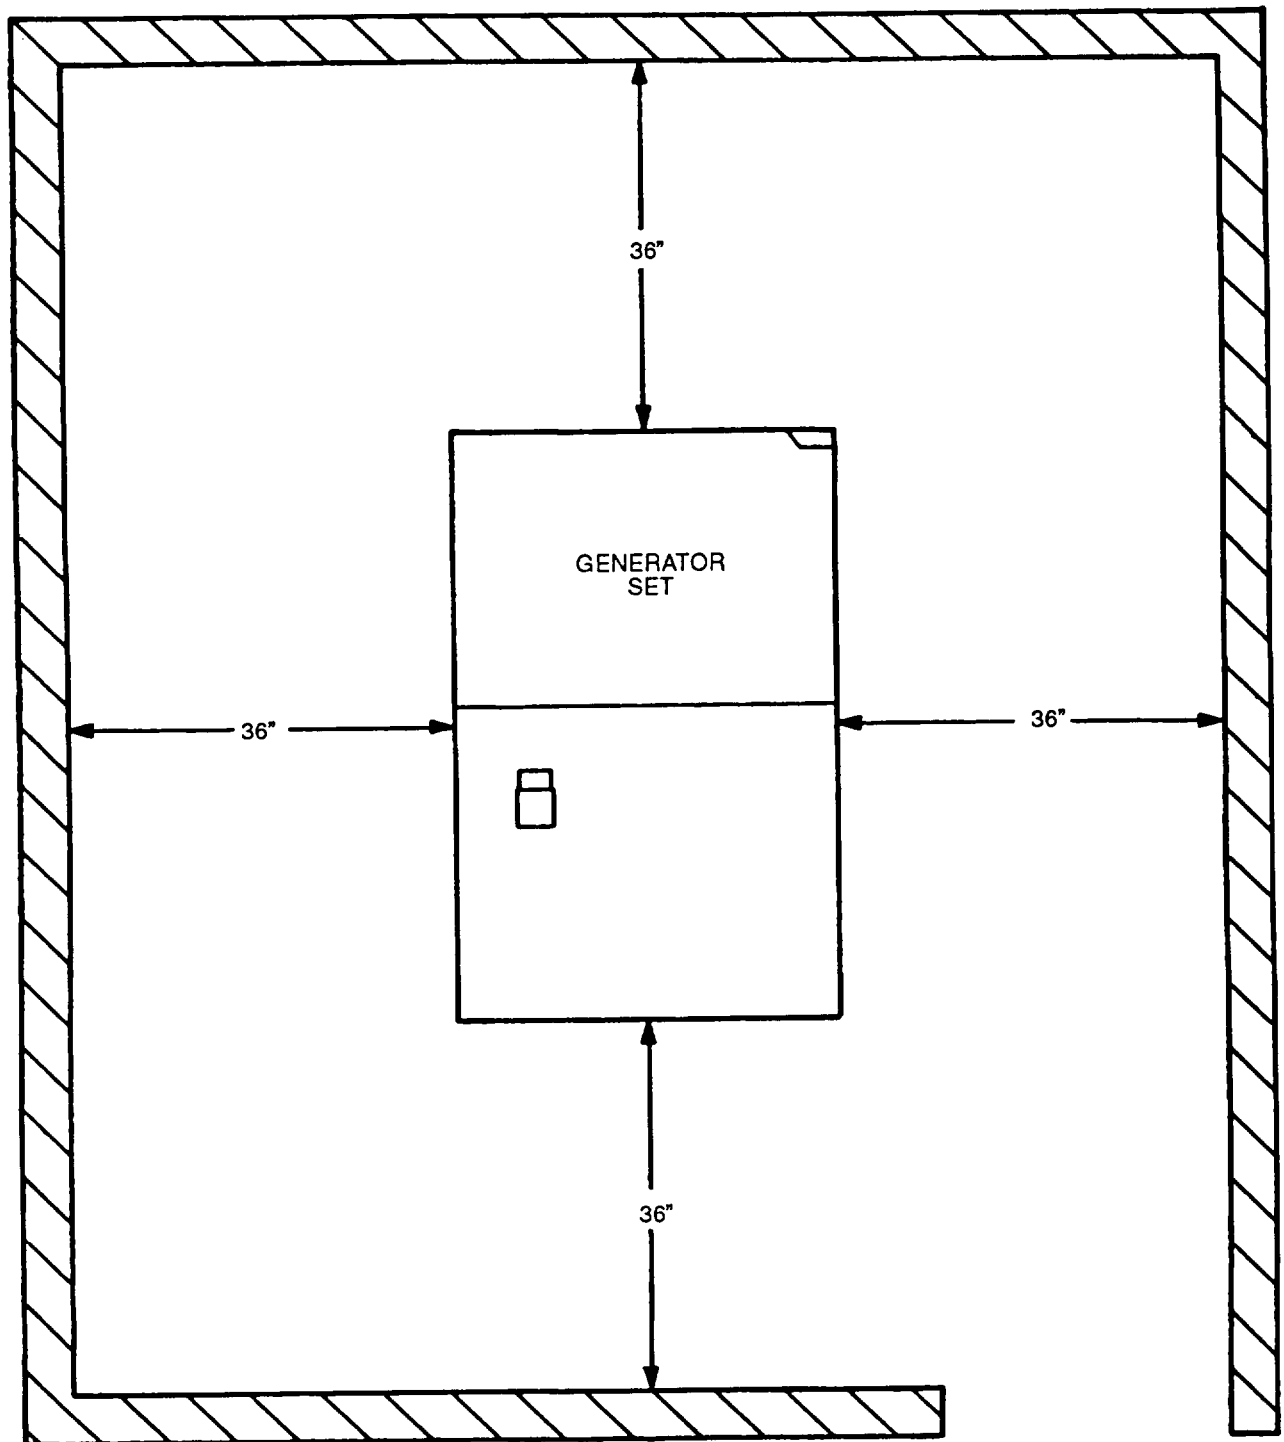
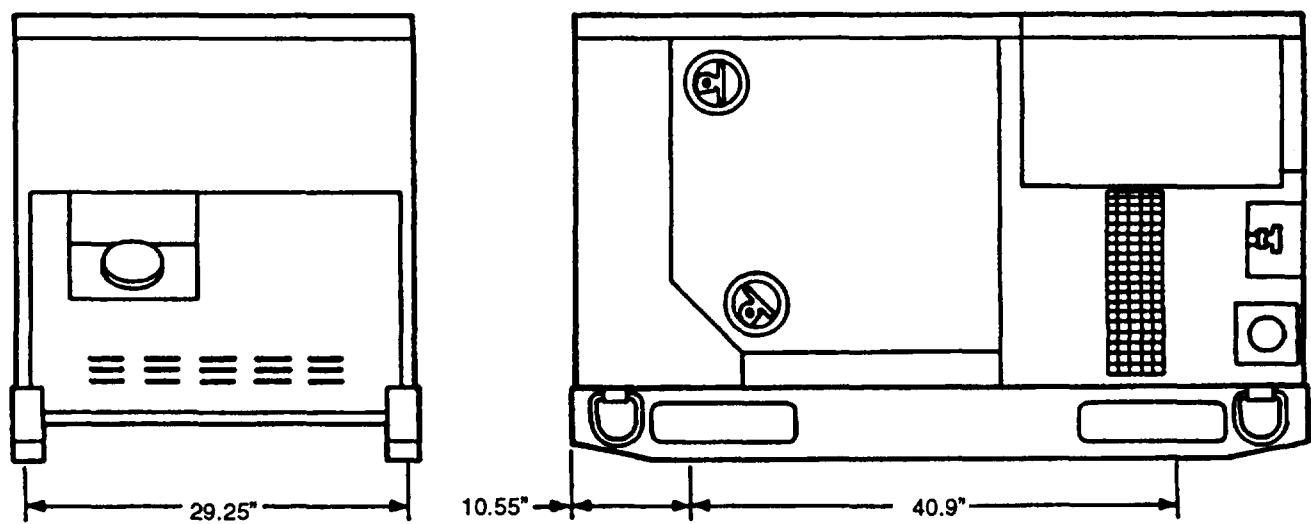

FIGURE 2-1. Minimum Enclosure Clearance Measurements
FIGURE 2-2. BASE MOUNTING MEASUREMENTS
- d. Refer to FIGURE 2-1 for minimum enclosure clearance measurement requirements and FIGURE 2-2 for base mounting measurements.
- b. Allow space on all sides for service and maintenance, refer to FIGURE 2-1.